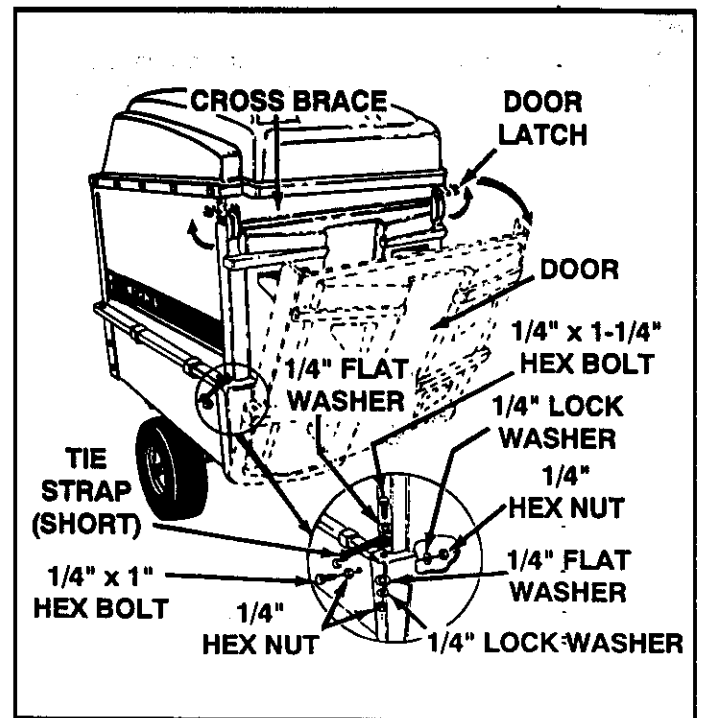

FIGURE 19
- Assemble one short tie strap to each side of rear door using one 1/4" x 1-1/4" hex bolt, two 1/4" flat washers, one 1/4" lock washer and one 1/4" hex nut. Assemble an "S" hook through the loose end of each strap. See figure 19.
- Assemble a 1/4" x 1" hex bolt with a 1/4" hex nut to outside of hole on each side of cart bed and secure from inside with a 1/4" lock washer and a 1/4" hex nut. See inset in figure 19.
- Assemble door to rear of cart by resting bottom of door on door support brackets and rotating top of door forward to meet cross brace. Latch top of door on each side. See figure 19.
- Hook both the tie straps onto the 1/4" x 1" hex bolts which were just assembled. See figure 19.